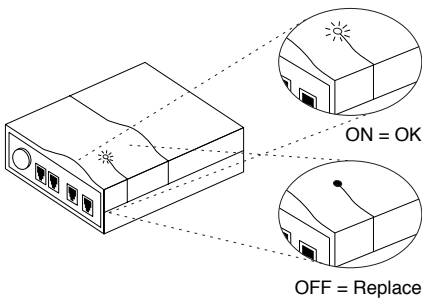

Figure 3: Diagnostic Operation
- The green diagnostic light should come on indicating AC line protection is operating properly. (see Figure 3)
- LED OFF = Fault, check AC line voltage and it's circuit breakers. If all correct, replace unit. (see Figure 3)